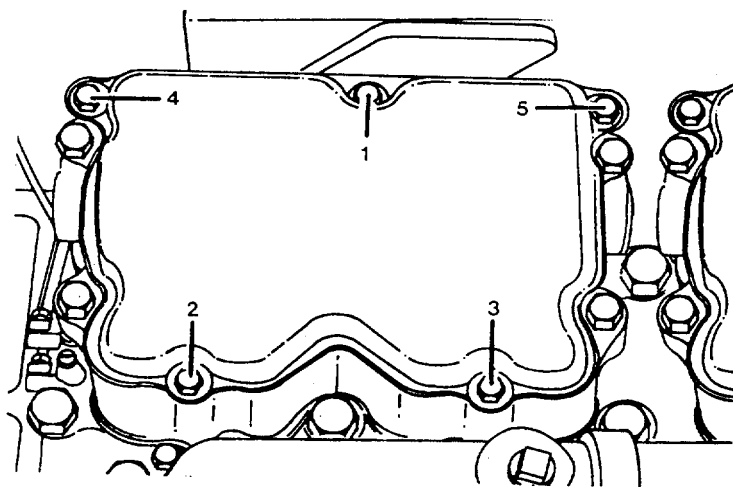

FIGURE 2-40. *Rocker Arm Cover Torque Sequence.*
- i. Install the covers (6, 7, 8) on the rocker lever housings (18).
- j. Install the five assembled washer screws (5) in each cover.
- k. Tighten the assembled washer screws in each cover in the sequence shown to 15 ft-lb (20.3N•m) torque (Figure 2-40).